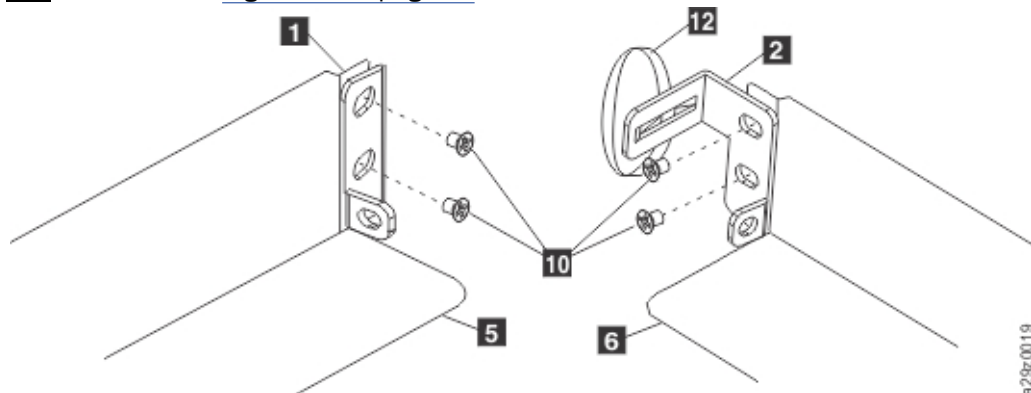

Figure 12. Attaching the rear brackets to the rails
5. Attach the left **1** and right **2** rear brackets to the left **5** and right **6** front rails with 2 round-head screws **10** on each side (Figure 12 on page 22).